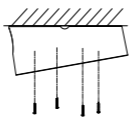

Figure 2-9 Fix the Inclined Base
1. Install the inclined base to the ceiling with supplied screws, as shown in Figure 2-9.